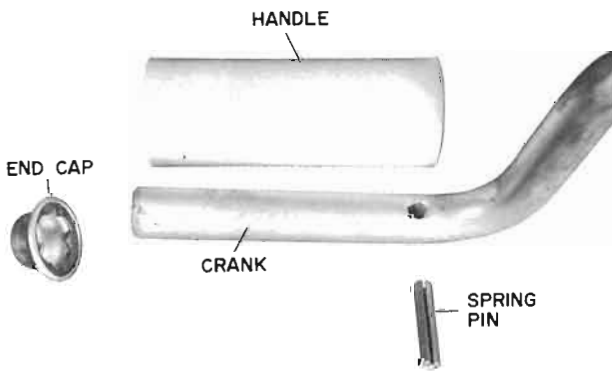

fig 3
4. Insert spring pin, item 80, into crank, item 66. Assemble handle grip and stud cap, items 82 and 83. See fig 3.
5. Position second hose clamp, item 78, over rubber connector. Position crank into both holes of crank support and into connector. Secure with the hose clamp.